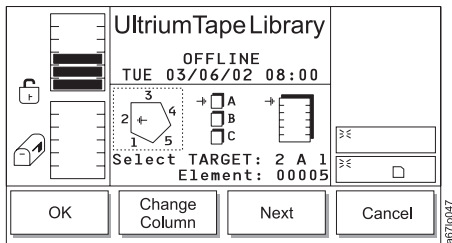

Figure 4-69. Position Picker Dialog
3. Press the button below the **Position Picker** softkey. The Position Picker Dialog displays (see Figure 4-69) with a message area that shows three icons:
The position of the arrow in each of the three icons identifies the storage slot's physical address. For example, arrows that point to a column 2, magazine A, and storage slot 1 indicate a physical address of 2 A 1. In the Position Picker Dialog, a slot's physical address displays below the right icon (see Figure 4-69).